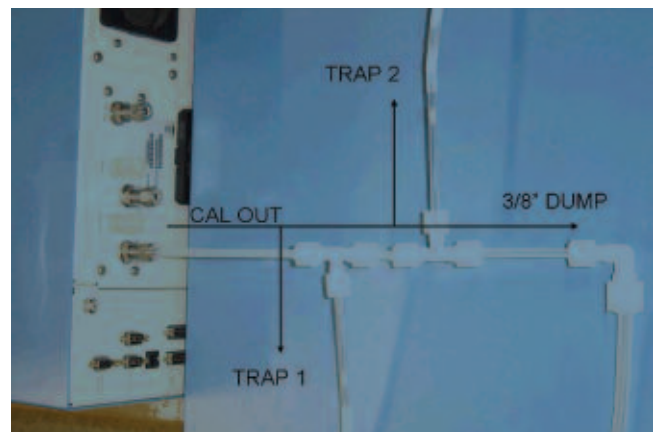

Figure 1: Connecting the traps
4. Plumb manifold as shown in Figure 1
6. Connect the pair of sorbent traps as shown in Figure 1 (note flow arrows on trap).